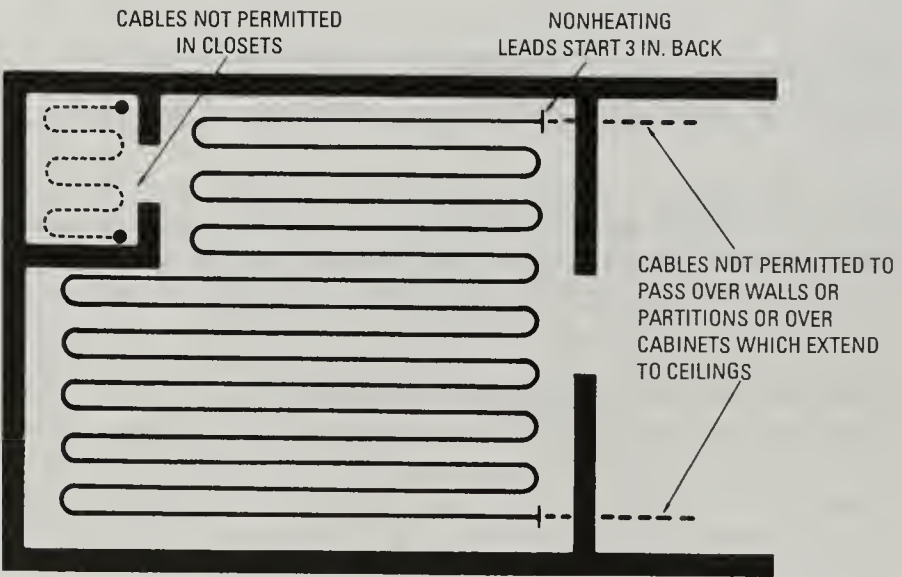

Figure 5-3 Illustration showing where heating cables may and may not be installed in ceilings.
(A) Shall Not Extend Beyond the Room or Area. Heating cables shall not extend beyond the room or area in which they originate. [See Figure 5-3.]
There are climates where humidity control is required in closets, but the prohibition of cables in closets is not intended to forbid the use of low-temperature humidity controls in closets (Figure 5-3).
(D) *Splices.* All heating cables, the splice between the heating cable and nonheating leads, and 3-inch (76 mm) minimum of the nonheating lead at the splice shall be embedded in plaster or dry board in the same manner as the heating cable. [See Figure 5-3.]